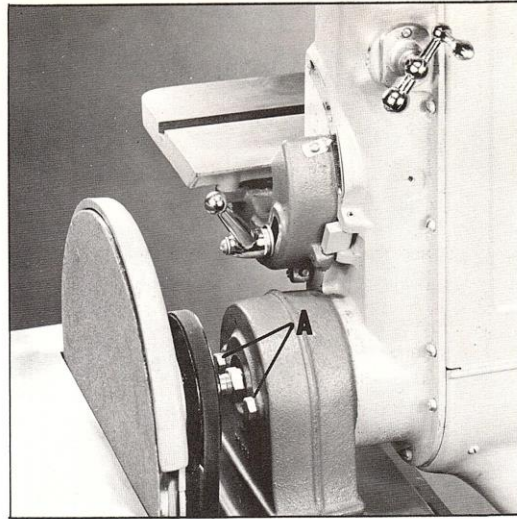

Fig. 12.
1. Loosen two bolts (A) Fig. 12, move the sanding arm to the desired position, and lock the two bolts. CAUTION: THE SANDING ARM SHOULD NEVER BE REPOSITIONED WHILE THE MACHINE IS RUNNING.